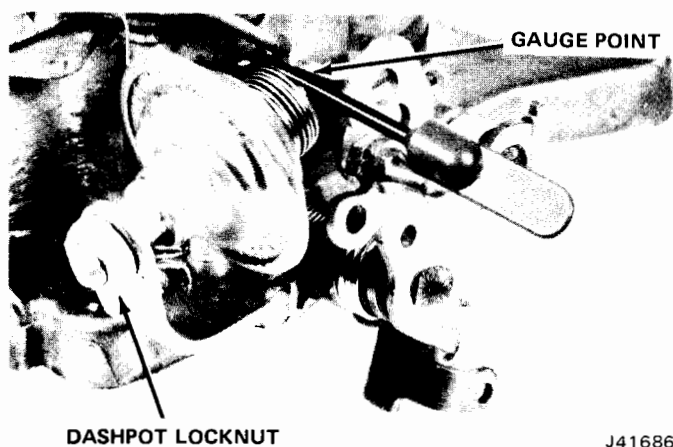

Fig. 4-85 Dashpot Adjustment
(1) Set throttle at curb idle position.
(2) Fully press the dashpot stem and measure the clearance between the stem and the throttle lever as shown in figure 4-85. Refer to Carburetor Service Specifications for the correct setting.